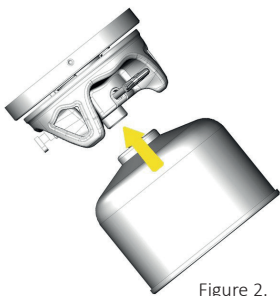

Figure 2.
- 2) Remove the plastic cap from the gas cylinder, hold the gas valve and gently turn the threaded end of the cylinder clockwise. Keep the gas cartridge vertical as you twist it onto the valve until it meets the O-ring. A small amount of gas will flow; do not turn the cap too hard or the gas valve will be damaged. (Figures 2 and 3). The appliance is now ready for use.